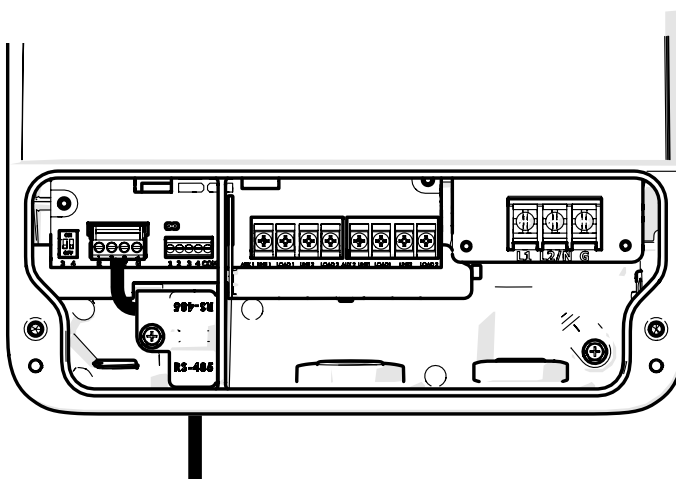

Figure 8. RS-485 Quick Connect Port with Wiring
In addition to being properly grounded as described in the *Electrical Wiring* section, and in accordance with the requirements of the National Electrical Code (NEC), or in Canada the Canadian Electrical Code (CEC), the pump motor must be bonded to all metal parts of the swimming pool, spa or hot tub structure and to all electrical components and equipment associated with the pool/spa water circulation system. The bonding must be accomplished by using a solid copper conductor, No. 8 AWG or larger. In Canada No. 6 AWG or larger must be used. Bond the motor using the external bonding lug provided on the motor frame. See Figure 8.
Please see Figure 8 for RS-485 wiring instructions.
- RS-485 quick connect port (see Figure 8)